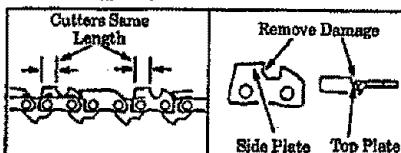

Figure 30
- c.) File from inside toward outside of cutter, straight across on forward stroke in one direction only. Use 2 or 3 strokes per cutting edge. Figure 30.
- d.) Keep all cutters the same length. Figure 30.
- e.) File enough to remove any damage to the cutting edges (side plates and top plate) of the cutter. Figure 30.